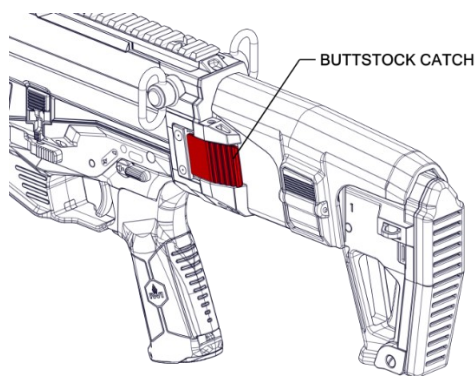

Figure 10-1 - Pressing the Buttstock Folding Button
3. Press the Buttstock Folding Button and fold the Buttstock (Figure 10-1).